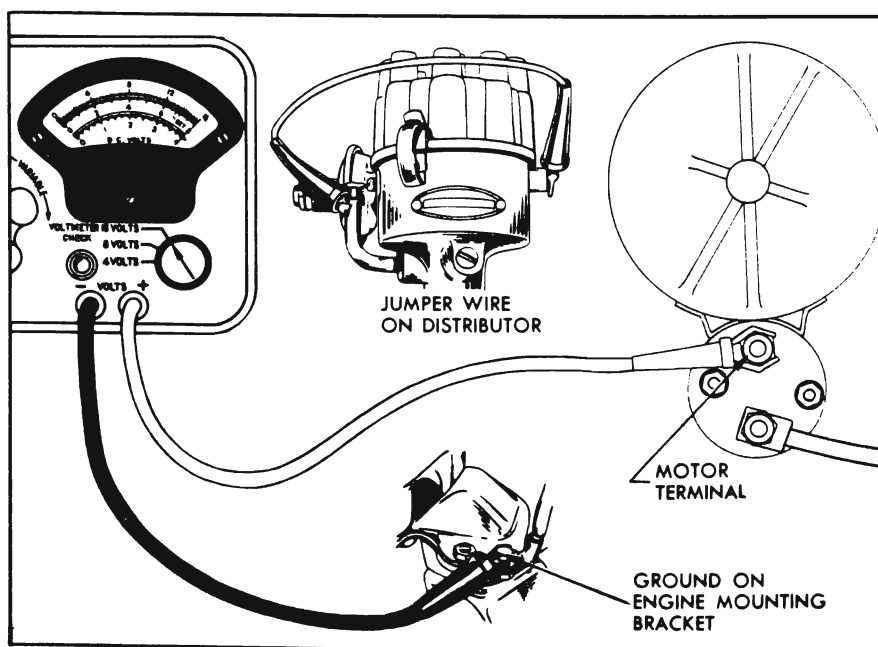

Figure 10-32—Cranking Voltage Test Connections
3. Remove cranking motor splash pan and connect voltmeter positive (+) lead to the motor terminal on solenoid switch; connect voltmeter negative (-) lead to ground on engine. See figure 10-32.